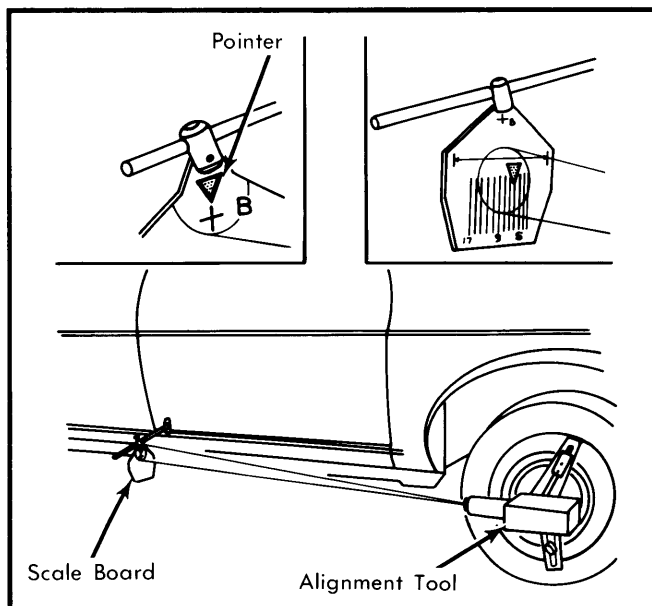

Fig. 1 Measurements for Steering Gear
2) Load front of vehicle until measurement from centerline of front wheel to bottom of lower frame member (at front wheel) is 4.313" (110 mm). Mount scale boards (T. Av. 552) on side of body so distance from wheel center to board is 51.188" (1300 mm). See Fig. 1.